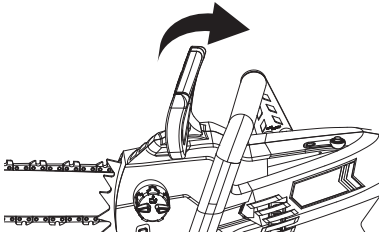
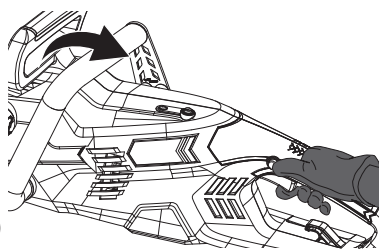

Fig. 17
Fig. 20
The chain brake (2) in the disengaged position, the product can be operated (Fig. 17).
1. Make sure the chain brake (2) is disengaged. Disengage the chain brake (2) by pulling it back towards the front handle (1)(Fig. 17).
2. Place the product on any suitable flat surface, make sure the saw chain (3) is not touching the surface or other objects and connect it to the power supply as described.
1. Make sure the safety chain brake (2) is disengaged (see above Fig. 17).
2. Grip the product with both hands, your left hand holding the front handle (1) (do not hold the chain brake) and your right hand holding the rear handle (12).
3. Press the lock-off button (16) and hold it in position.
4. Squeeze in the on/off switch (18) to switch the product on (Fig. 20).
5. Release the on/off switch (18) to switch the product off.